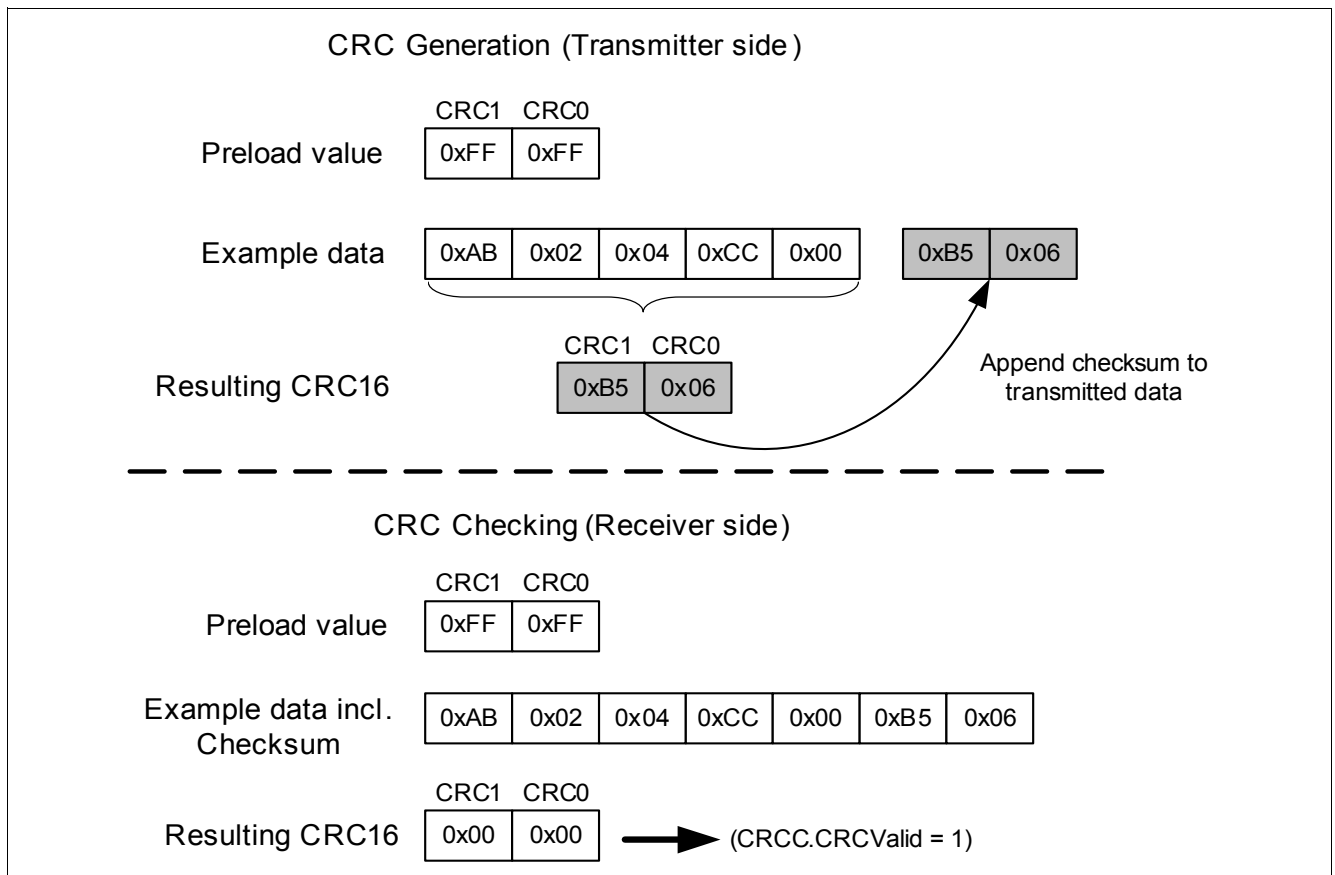

Figure 31 Example for CRC16 usage
Figure 31 shows the basic usage of the CRC16.
- The databytes which should be checked have to be shifted one after the other into the SFR CRCD. It is important that the order (MSB-LSB) is the same as it was during the CRC Generation. In addition to the data the CRC16 has to be shifted into SFR CRCD as well (first the high byte then the low byte - see also Figure 31). The process of CRC Checking is automatically invoked when data bytes are written to the SFR CRCD.